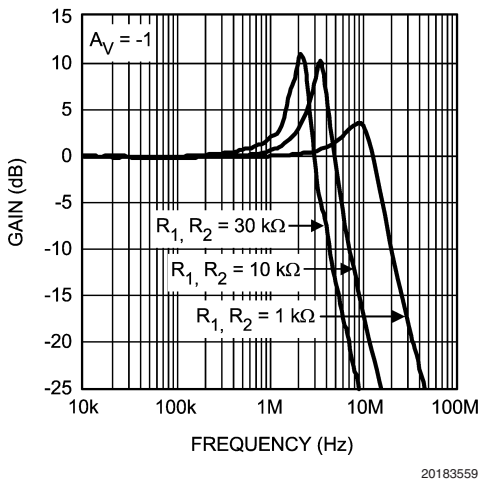

FIGURE 3. Gain Peaking Caused by Large R_1, R_2
Equation (2) shows that as the values of R_1 and R_2 are increased, the magnitude of the poles, and hence the bandwidth of the amplifier, is reduced. This theory is verified by using different values of R_1 and R_2 in the circuit shown in Figure 1 and by comparing their frequency responses. In Figure 3 the frequency responses for three different values of R_1 and R_2 are shown. When both R_1 and R_2 are 1 kΩ, the response is flattest and widest; whereas, it narrows and peaks significantly when both their values are changed to 10 kΩ or 30 kΩ. So it is advisable to use lower values of R_1 and R_2 to obtain a wider and flatter response. Lower resistances also help in high sensitivity circuits since they add less noise.